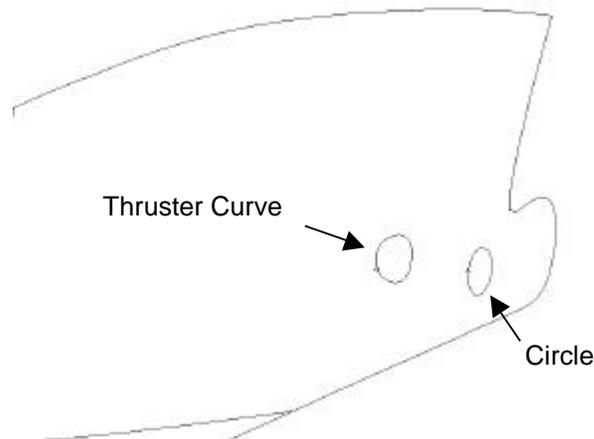

Figure 2-21: Circle projected onto Foreship Surface
4. To see the result, click the **Para** button and zoom in on the forward end of the hull. (See Figure 2-21.)